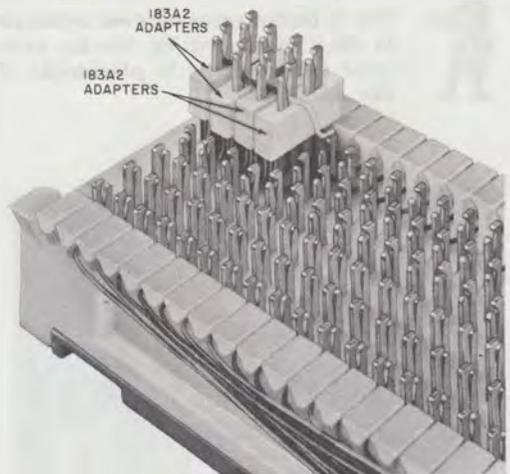

Fig. 14—Typical Installation of 183A2 Adapters on 66B-Type Connecting Block
4.06 No special tools are required to install or remove either adapter. Fig. 14 shows the 183A2 adapter installed. Install as follows: